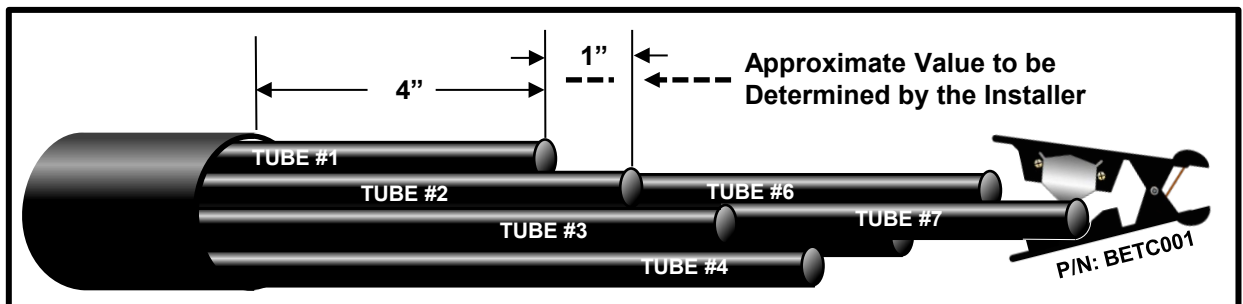

Figure 4
7.1 On the first Tube Cable, locate Tube #1. Measure approximately 4" in from stripped end of Tube Cable jacket and mark Tube #1. Use Tube Cutter (SEL: BETC001) to cut Tube #1 at this mark. **See Fig. 4.**
7.2 Locate Tube #2. Measure approximately 1" from the previous cut Tube (Tube #1) and mark Tube #2. Use Tubing Cutter (SEL: BETC001) to cut Tube #2 at this mark. **Refer to Fig. 4.**
7.4 On second Tube Cable, locate Tube #7. Measure approximately 4" in from stripped end of Tube Cable jacket and mark Tube #7. Use Tube Cutter (**SEL: BETC001**) to cut Tube #7 at this mark. **Refer to Fig. 4.**
7.5 Locate Tube #6. Measure approximately 1" from the previous cut Tube (Tube #7) and mark Tube #6. Use Tubing Cutter (**SEL: BETC001**) to cut Tube #6 at this mark. **Refer to Fig. 4.**